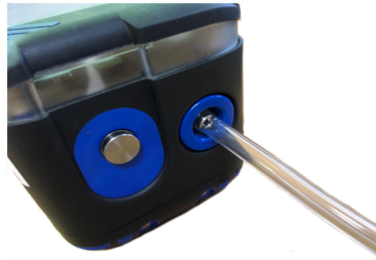

Figure 75: Connect Calibration Gas
3. Connect the calibration gas to the monitor inlet (as shown in Figure 75: Connect Calibration Gas).